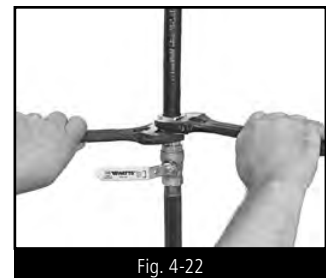

Fig. 4-22
STEP 5 WRENCH FITTING (FIG. 4-22)